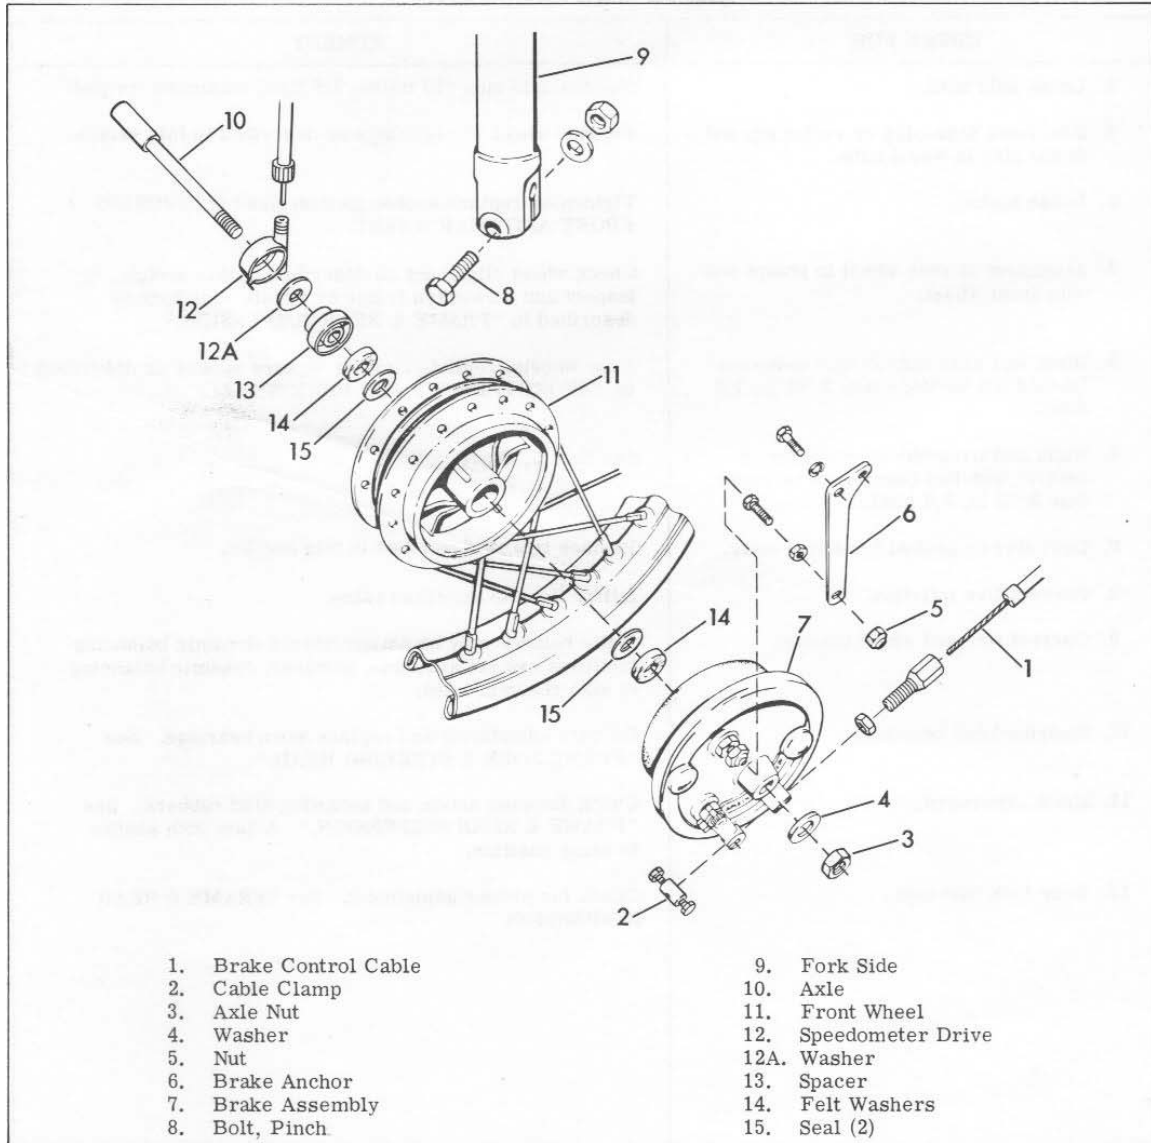

Figure 2.3. Removing and Installing Front Wheel
Raise front end of motorcycle high enough to permit removing wheel. Support motorcycle with suitable blocking underneath frame. Disconnect brake control cable (1), Figure 2.3, by removing cable clamp (2). Remove axle nut (3) and axle nut flat washer (4). Remove nut (5) securing brake anchor (6) to brake assembly (7). Loosen axle pinch bolt (8) in fork side (9). Note that Marzocchi forks have a pinch bolt in right side only, Ceriani and Betor forks have a pinch bolt in both right and left sides. Using a soft hammer, loosen axle (10) and pull out from hub and fork assembly. This will free front wheel (11), speedometer drive (12), washer (12A) and brake as-